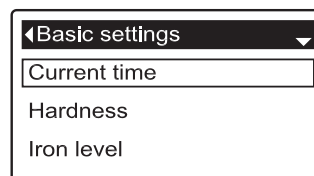

FIG. 32
3. Press the SELECT (O) button to display the Basic settings menu (See Figure 32).
7. Press the SELECT (O) button. The display will go back to the Basic settings menu (Figure 32).